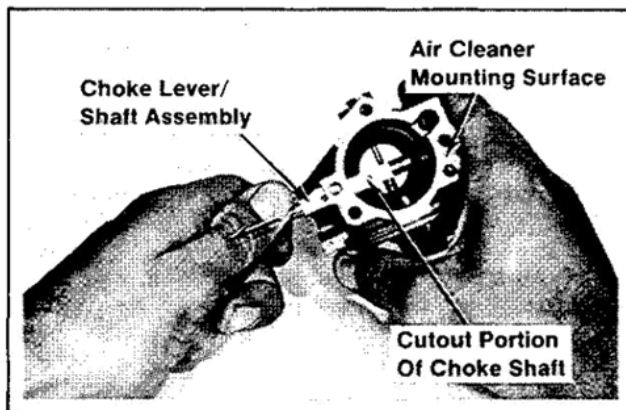

Figure 6-13. Removing Choke Lever/Shaft.
4. Rotate the choke shaft until the cutout portion of shaft is facing the air cleaner mounting surface (refer to Figure 6-13). Place the carburetor body on work bench with choke side down. Remove the choke lever/shaft assembly from carburetor body; the detent ball and spring will drop out.